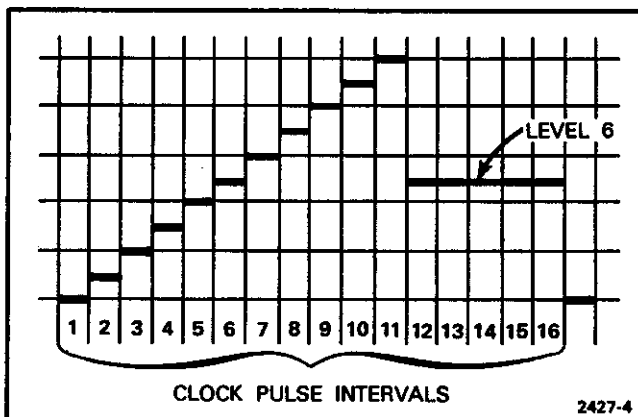

Figure 3-2. Staircase waveform at output of U179 (TP 181).
Clock pulses increment counter U130, whose four outputs connect to flip-flop (FF) U150 and multiplexer U160. U150 acts as a select control for U160. Starting from a count of zero, U130 increments with each Clock pulse. The eleventh Clock pulse causes logic levels of 1010 (HI, LO, HI, LO) on the QA, QB, QC, and QD outputs of U130, which causes U150 to switch its Q output to a high-logic level. This high-logic level causes multiplexer U160 to connect its B inputs to its output. The B inputs to U160 for Clock pulses 12 through 15 are 0101. This causes D/A converter U170 to produce a constant output at the sixth level of the staircase for a time equal to the duration of five clock intervals. The five-times duration produces a brighter display on the cathode-ray tube (crt) at the center line. Figure 3-2 shows the staircase waveform that appears at the output of U179.